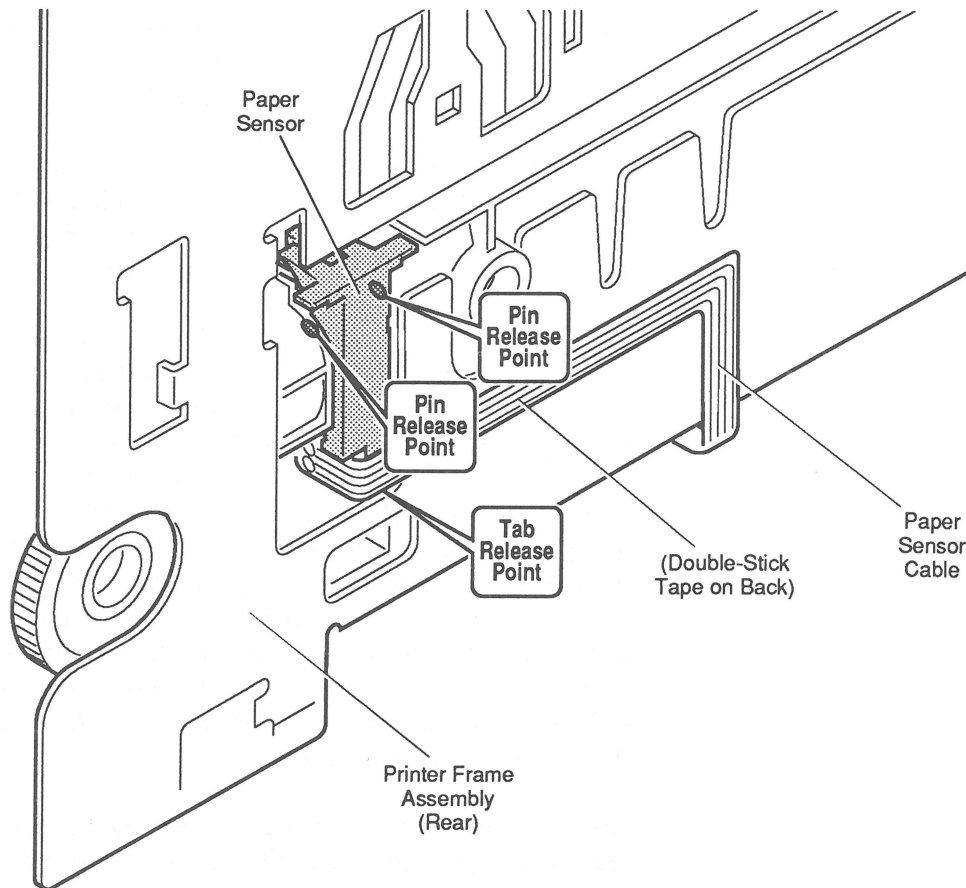

Figure 2-8 Paper Sensor
2. Turn the printer frame assembly over and locate the paper sensor (**Figure 2-8**). Note that the paper sensor cable is attached to the back of the printer frame with double-stick tape. Carefully peel the cable off the tape, but leave the tape in place on the metal frame.
3. Using a precision screwdriver, carefully release the tab at the bottom of the paper sensor. To loosen the pins that hold the top of the paper sensor in place, carefully insert your precision screwdriver between the paper sensor and the frame at the upper pin release points (**Figure 2-8**). When the paper sensor is free of the frame, lift the sensor out.
1. Snap the paper sensor into place on the rear of the printer frame assembly (**Figure 2-8**).